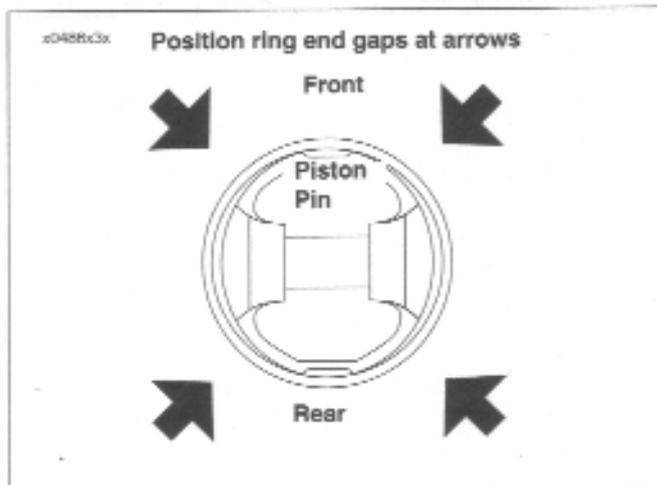

Figure 3-100. Ring End Gap Position
3. See Figure 3-100. Install rings so end gaps of adjacent rings are a minimum of 90° apart. Ring gaps are not to be within 10° of the thrust face centerline.